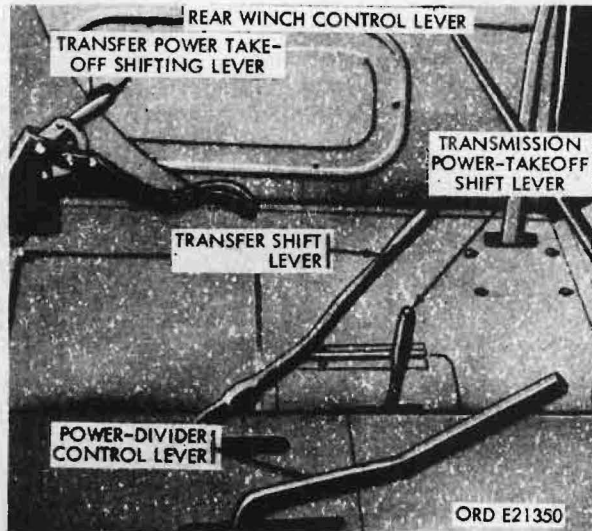

Figure 96. V-18A/MTQ control levers in cab
- (1) Rear winch control lever (fig. 96). This lever, located on the left side of the cab floor, controls the engagement and disengagement of the rear-winch clutch and brake.
- (2) Power-divider control lever (fig. 96). This lever, projecting from the intermediate tunnel on the floor of the cab, controls the shifting of the power-divider.